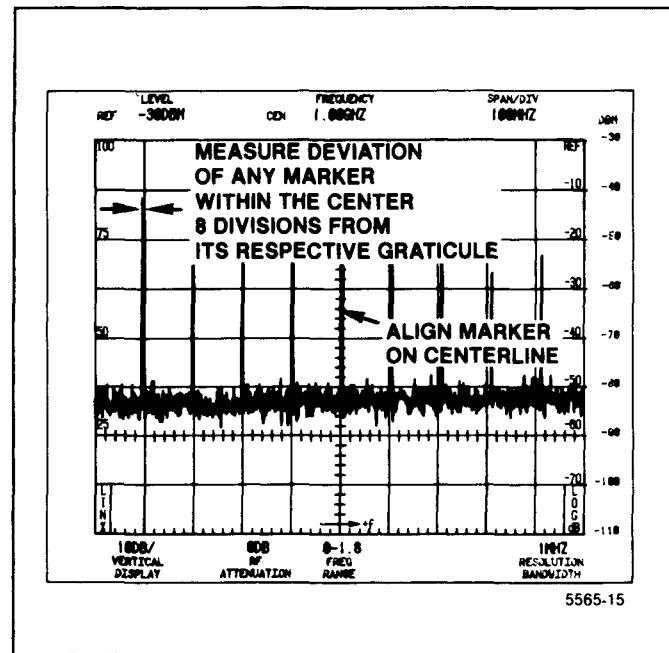

Figure 4-5. Typical marker display for measuring Span/Div accuracy.
b. Apply the CAL OUT signal to the RF INPUT and set the FREQUENCY to align the 100 MHz markers so the 100 MHz/div accuracy can be measured over the center eight divisions of the display. It may be necessary to change the REF LEVEL to obtain adequate marker amplitude. Maximum deviation (see Figure 4-5) must not exceed 5 MHz.